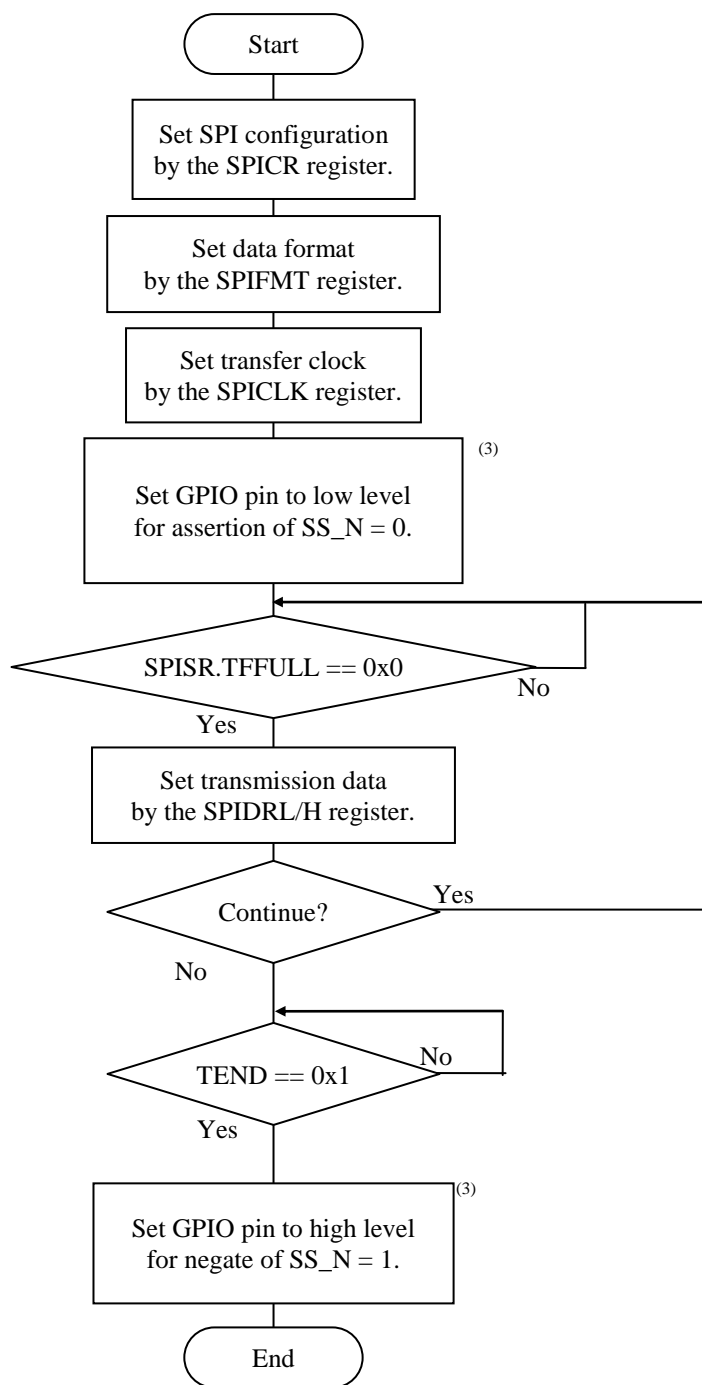

Figure 18-11. Master Mode (Transmission)
When the transmission data(1) is written to the SPIDRL/H register while the TXFIFO bit is empty (i.e., SPISR.TFEMPTY = 1), the transmission data is transferred to the shift register via the TXFIFO, and then the transfer as shown in Figure 18-11 starts.